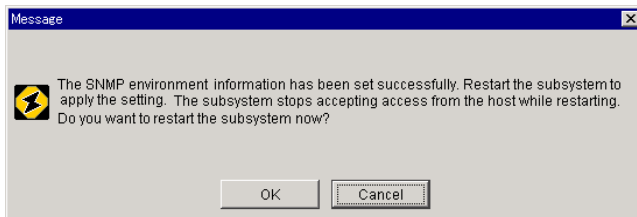

Figure 5.9 Settings/Environment Complete Dialog Box
8. A message appears, confirming that the settings are complete (Figure 5.9). This message also asks you to restart the subsystem. Click **OK**.